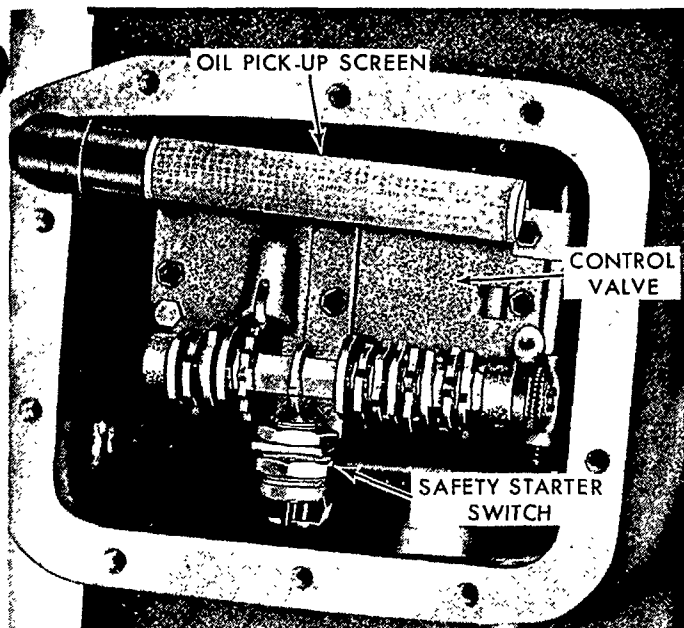

Figure 40
2. Remove the oil inlet screen, shown in Figure 40.